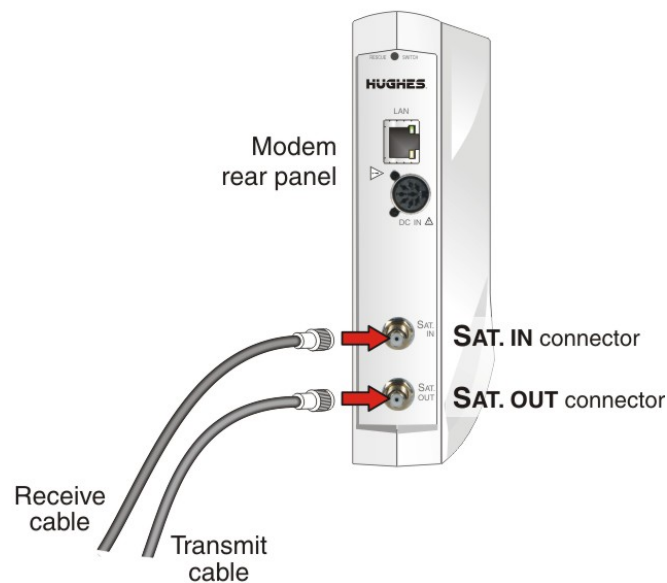

Figure 5: Connecting the transmit and receive cables to the modem
1. Connect the transmit and receive cables to the connectors on the rear panel of the modem as shown in *Figure 5: Connecting the transmit and receive cables to the modem* on page 15.